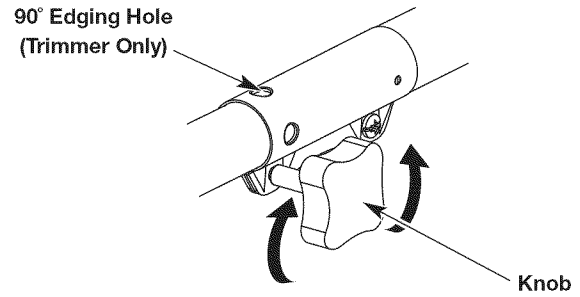
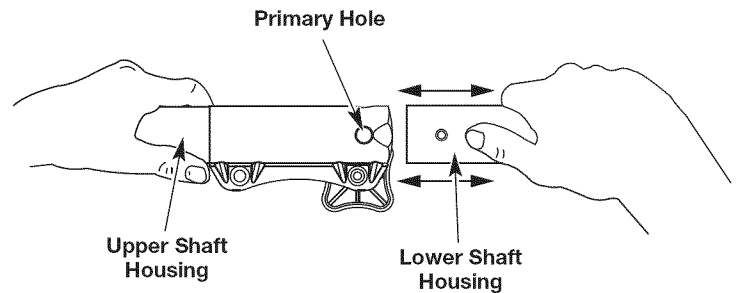

Fig. 4
Fig. 6
1. Turn the knob counterclockwise to loosen (Fig. 4).
2. While firmly holding the attachment, push it straight into the coupler until the release button snaps firmly into the primary hole (Fig. 6).
3. Turn the knob clockwise to tighten (Fig. 4).
**CAUTION:** Before operating the unit, make sure the release button is fully snapped into the primary hole (Fig. 6) and the knob (Fig. 4) is securely tightened.
For decorative edging with a string trimmer attachment, lock the release button into the 90° edging hole (Fig. 4).
3. While firmly holding the upper shaft housing, pull the attachment straight out of the coupler (Fig. 6).